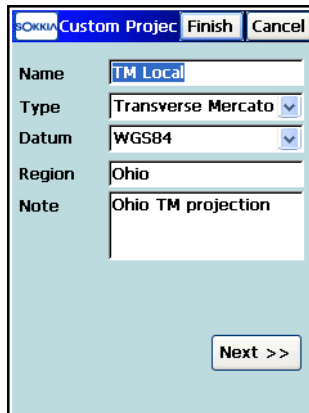

Figure 4-86. Custom Projection
- Tap the **Add** button. On the *Custom Projection* screen, enter the name for the new custom grid system and select a sample projection and datum from the lists of available types, enter the region and any additional information (Figure 4-86). Tap **Next**.